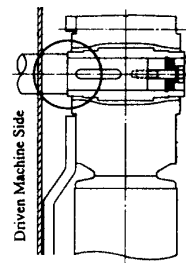

Fig. 2 Fixed by stopping shaft
* Method to avoid Drive from slipping onto a driven machine (Fig. 2~4)